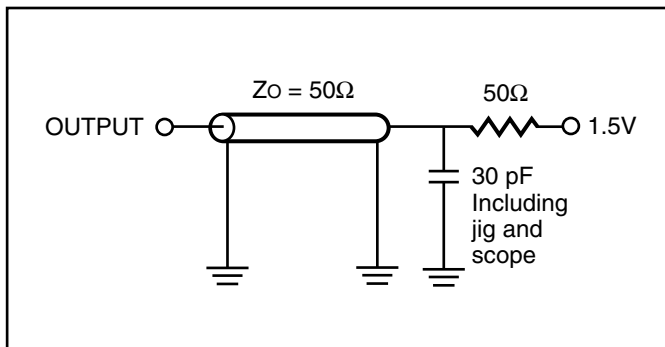

Figure 1.
1. Test conditions assume signal transition times of 5 ns or less, timing reference levels of 0.9V/1.5V, input pulse levels of 0.4 to V_{DD}-0.2V/0.4V to V_{DD}-0.3V and output loading specified in Figure 1.